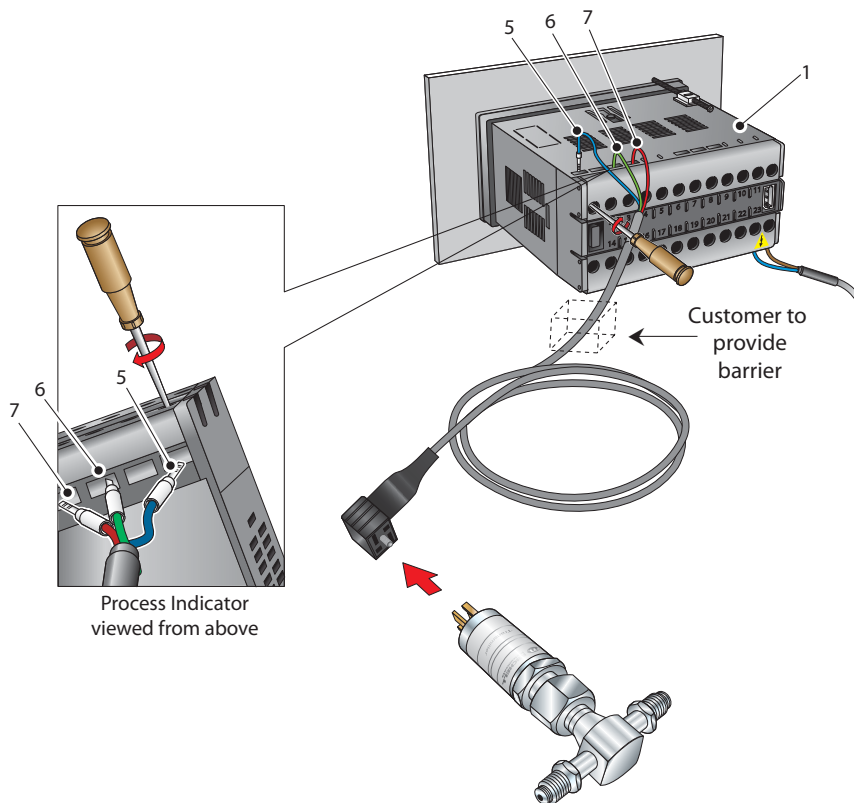

Figure 4.1 Transmitter connections
Connect the transmitter cable to the Process Indicator (1) as shown in *Figure 4.1*.